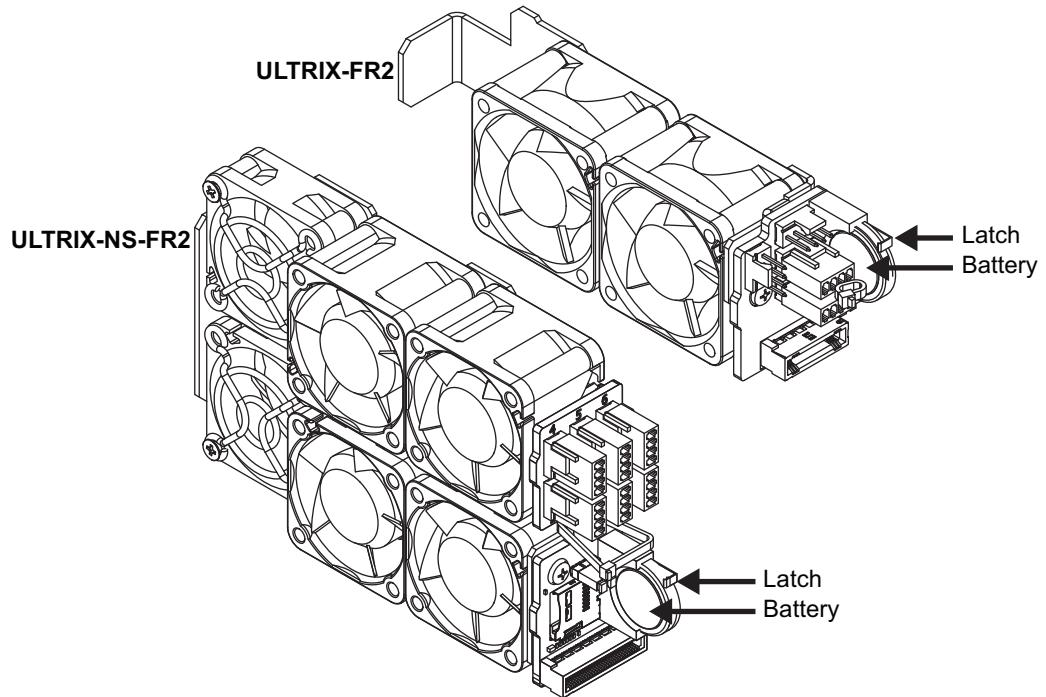

Figure 86 Battery Location inside the Cooling Fan Module — ULTRIX-FR2 and ULTRIX-NS-FR2
1. Locate and note the orientation of the failed battery inside the Cooling Fan Module. (Figure 86)